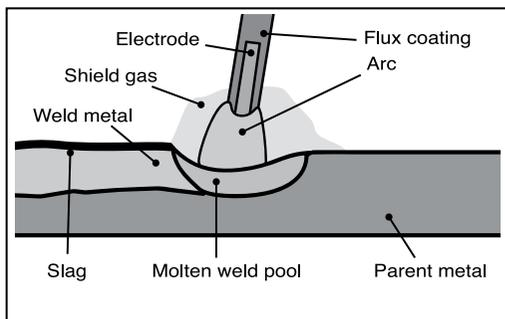

FIG. 2
8.1 BASIC MMA/ARC WELDING PROCESS OVERVIEW – FIG.2